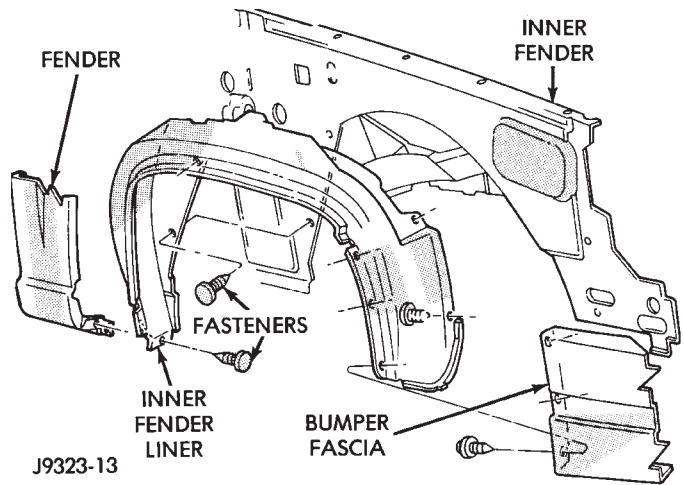

Fig. 10 Inner Fender Liner
- (1) Remove headlamp, side marker and turn signal lamp. Refer to Group 8L, Lamps for service information.
- (2) Remove front bumper fascia. Refer to Group 13, Frame and Bumpers for service information.
- (3) Remove front wheel.
- (4) Remove fasteners attaching inner front fender liner to fender and inner fender (Fig. 10).
- (5) Remove inner fender liner.
- (6) Right fender only: